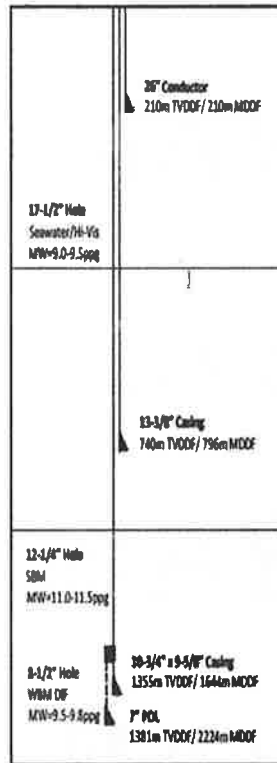

FIGURE Q1b: Sample well with 2 wells campaign
- b. One of the critical activities during Technical Limit planning is to develop the opportunity register which could optimize the well duration and execution plan. It should be tracked during the execution stage. Suggest the optimization opportunities for the drilling phase activities given in **TABLE Q1b** that can be proposed for the sample well as shown in **FIGURE Q1b**. Please note that it is a 2 wells campaign which will be drilled using a jack-up rig.